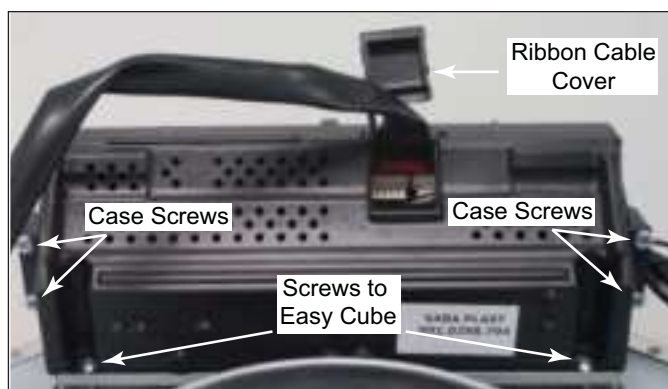

Figure 3-8. Power Board Assembly
1. Open Ribbon Cable cover with a flat blade screwdriver and disconnect Ribbon Cable. (See Figure 3-8)